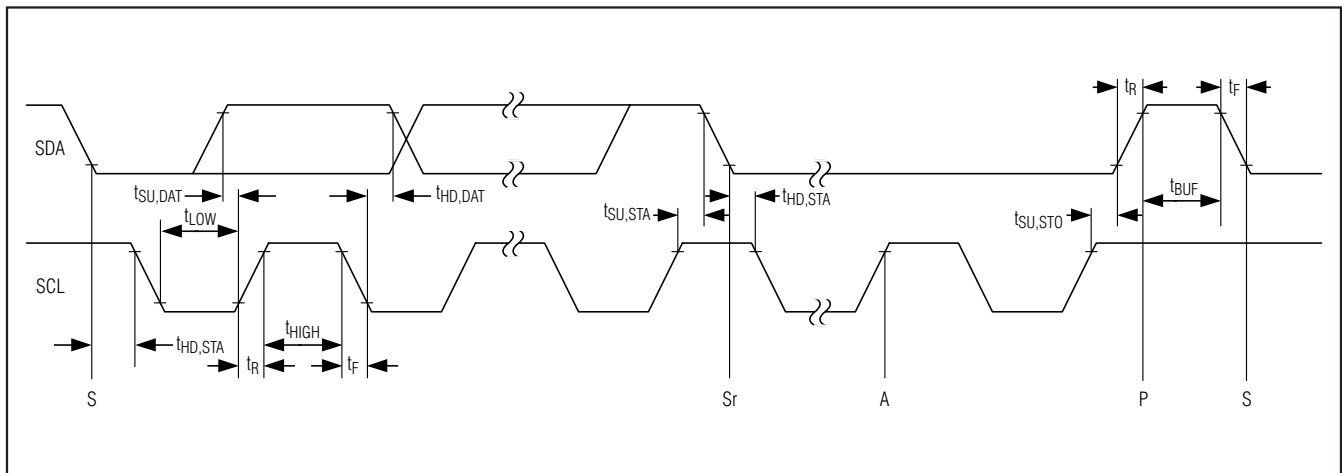
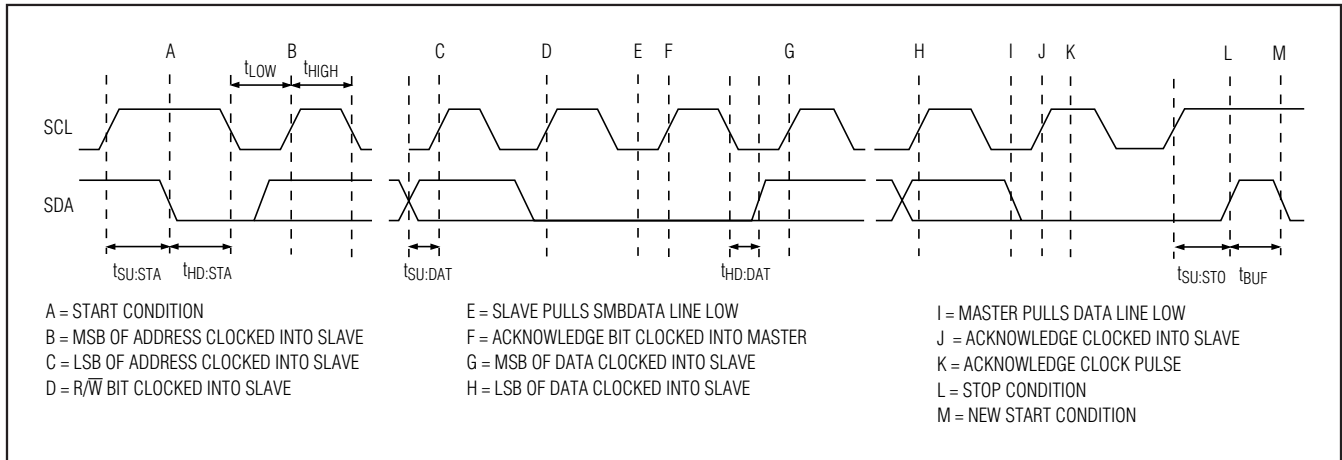

Figure 1. I2C Serial Interface Timing
Figure 3. I2C Write Timing Diagram
The master initiates a transmission with a START condition (S), a high-to-low transition on SDA with SCL high. The master terminates a transmission with a STOP condition (P), a low-to-high transition on SDA while SCL is high (Figure 3). The STOP condition frees the bus and places all devices in F/S mode (Figure 1). Use a repeated START condition (Sr) in place of a STOP condition to leave the bus active and in its current timing mode.